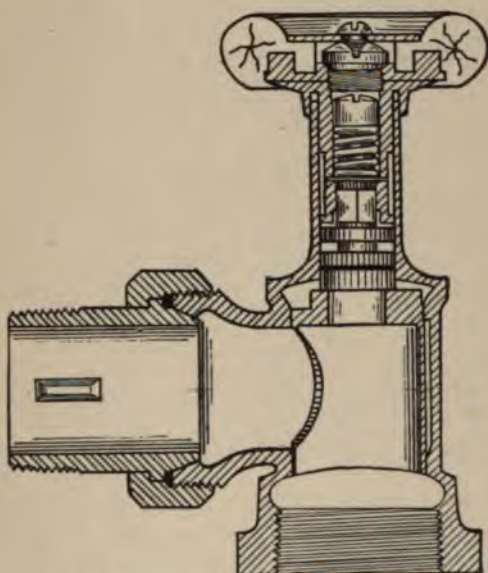

Fig. 89.—Packless Hot Water Radiator Valve.
A. A packless radiator valve is a valve specially constructed so that the hexagon nut at the top of the bonnet does not require any packing around the stem of the valve to make it tight. Packless valves are made for both steam and hot water. Fig. 89 is a sectional view of a packless hot water radiator valve.